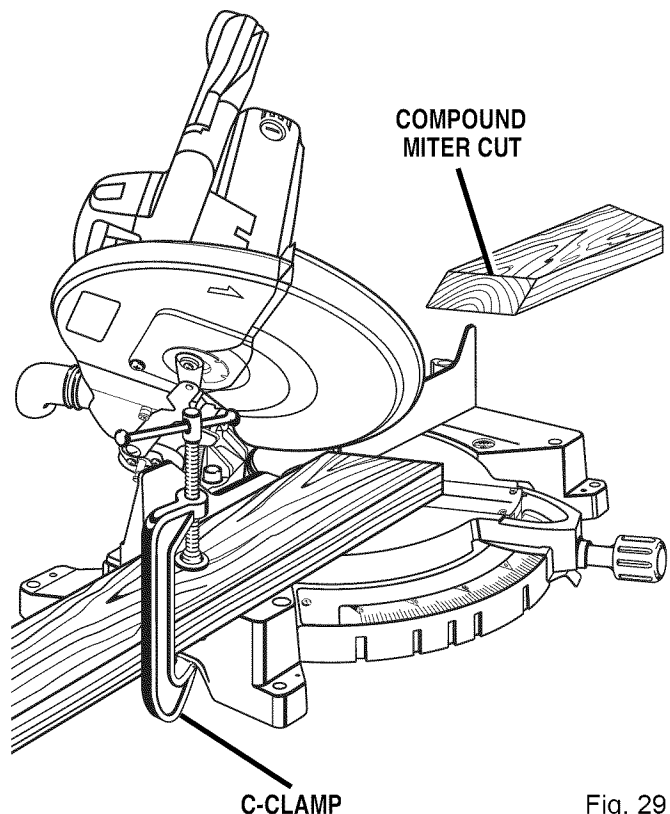

Fig. 29
- Grasp the stock firmly with one hand and secure it against the fence. Use the work clamp or a C-clamp to secure the workpiece when possible. *See Figure 29.*
- Slowly lower the blade into and through the workpiece. See Figures 29 and 30.